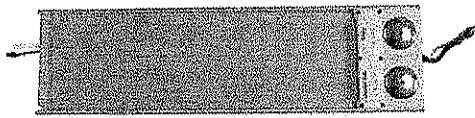
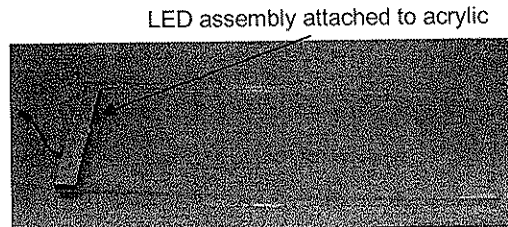

Figure 4: Front Panel Assembly
Figure 5: The Light Pipe with LED assembly
- a. The front panel assembly (Figure 4) contains the light pipe and tempered glass. The light pipe, schedule and tempered glass slide in separate channels (see Figure 5 for light pipe assembly).